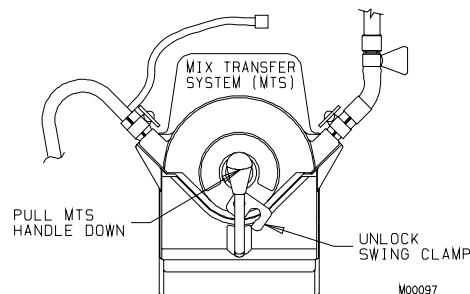
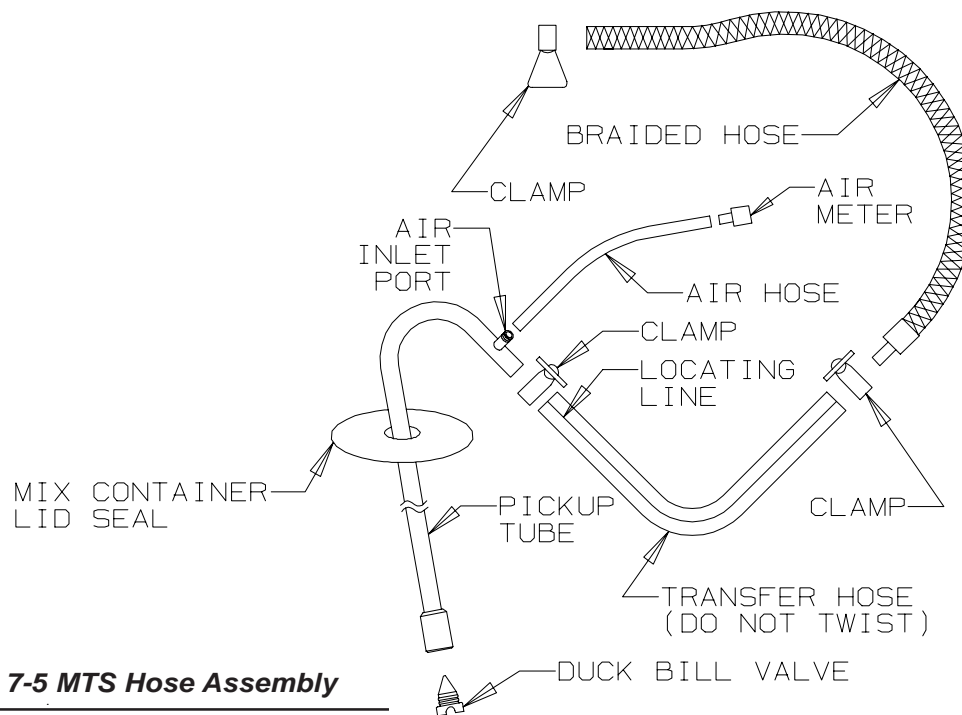

Figure 6-4 MTS
Figure 7-5 MTS Hose Assembly
11. Remove MTS hose assemblies from the Mix Transfer Systems by unlocking the swing clamps and pulling the MTS handles down (figure 6-4). For each side loosen the three clamps and separate the parts as shown in figure 7-5.
12. Assemble the MTS hose assembly by sliding the clamp on the transfer hose. Then slide the transfer hose over the pickup tube until it meets the air inlet port. The transfer hose has a locating line. Rotate the hose so that the locating line is to the left of the air inlet port as shown in figure 7-5. Secure the hose with the clamp.